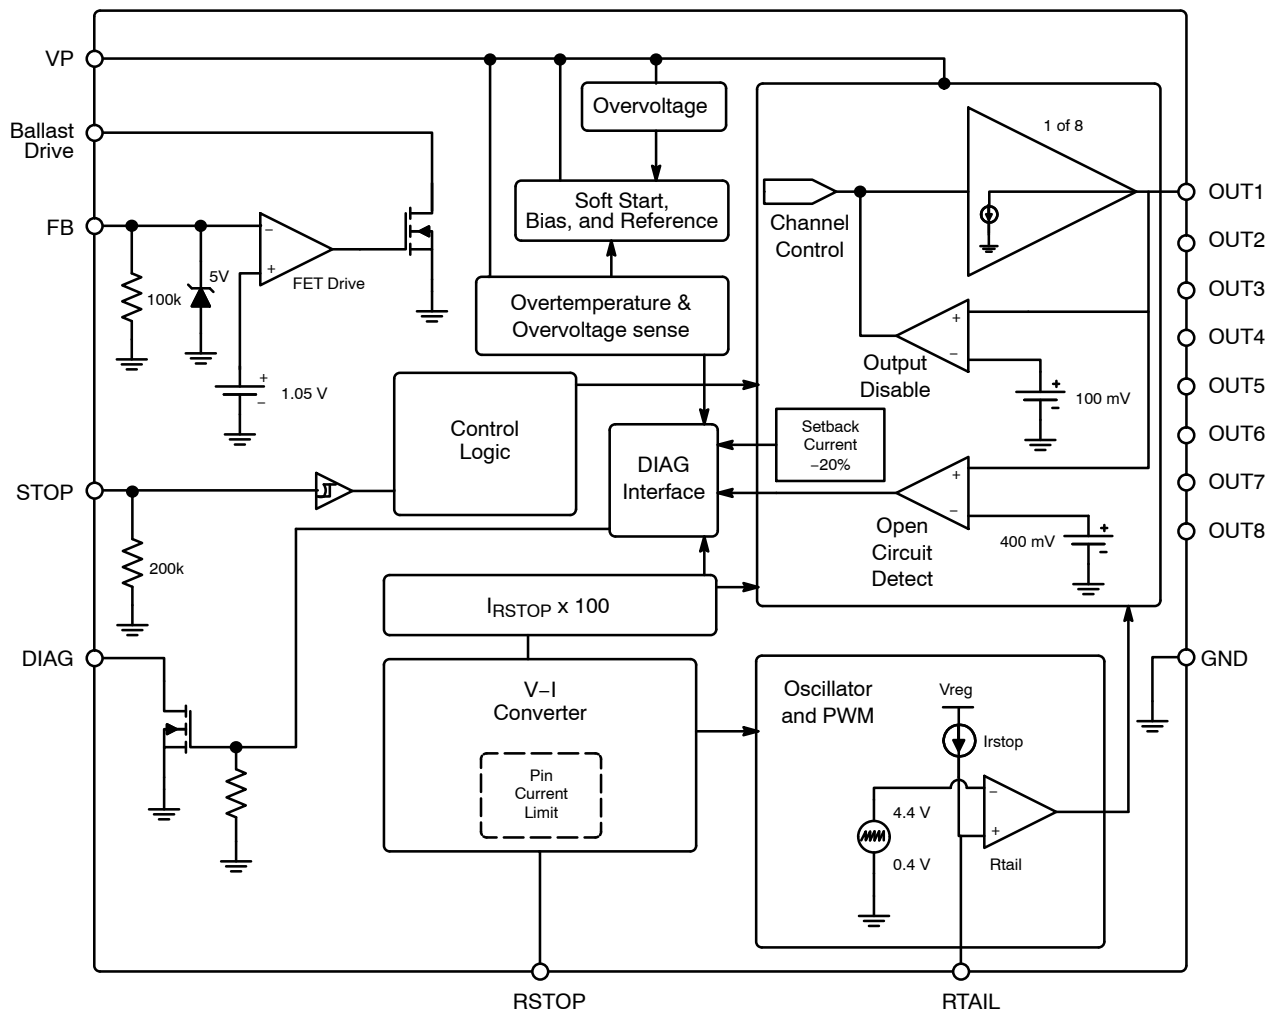

Figure 2. Detailed Block Diagram
**Table 1. APPLICATION I/O TRUTH TABLE** (FB =  $V_{ref}$ ) (Reference Figure 2)